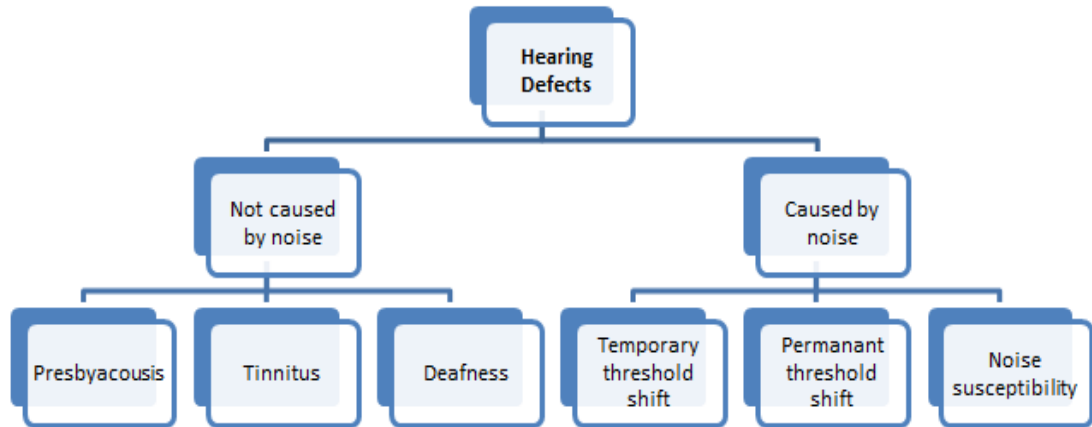

Figure 1: Hearing defects
- c) Hearing defects are usually divided into two general types as shown in **Figure 1**.